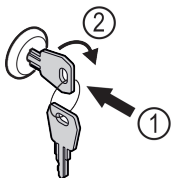

Fig. 165 Example illustration
- ▶ Insert key Fig. 165 (1).
- ▶ Turn key clockwise by 90° Fig. 165 (2).